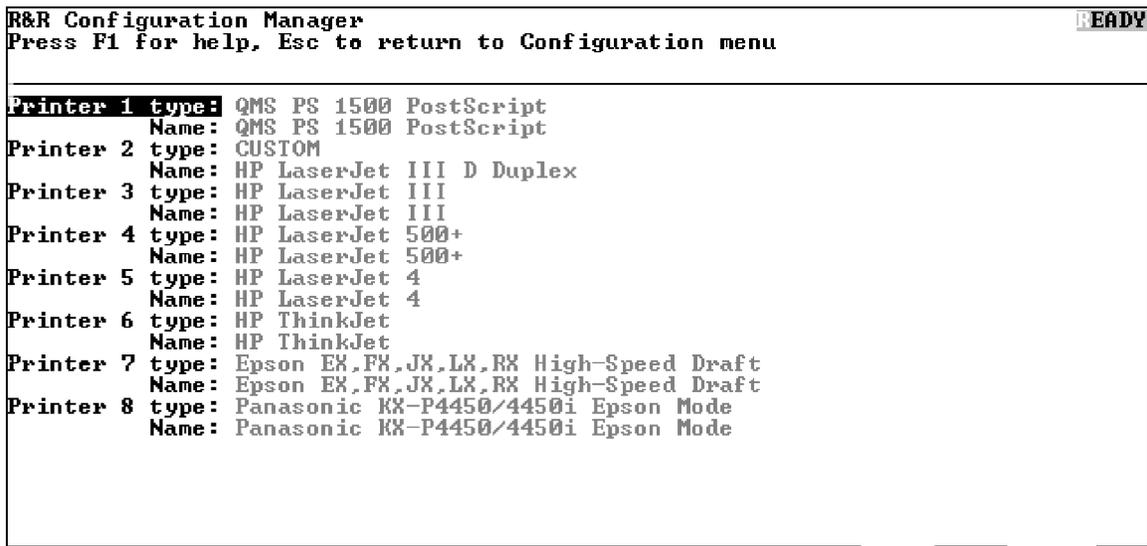

Figure 10-93. The Printer Configuration dialog.
4. Press <P> to execute the Printers option. The Printer Configuration dialog appears on your screen as shown in Figure 10-93.